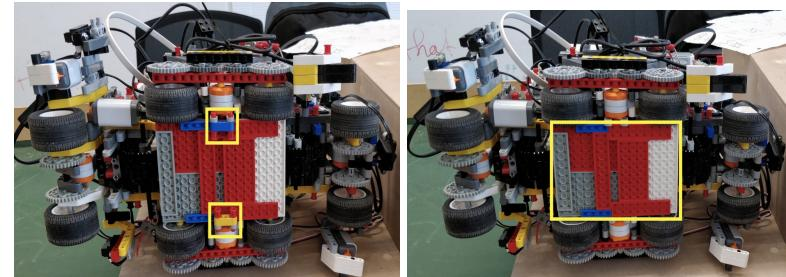

Figure 2: Locking Pegs and Baseplate
1. Gently lower the robot onto its side and remove the four red pegs on the underside of the robot. After the pegs are removed, remove the bottom plate (see Figure 2).